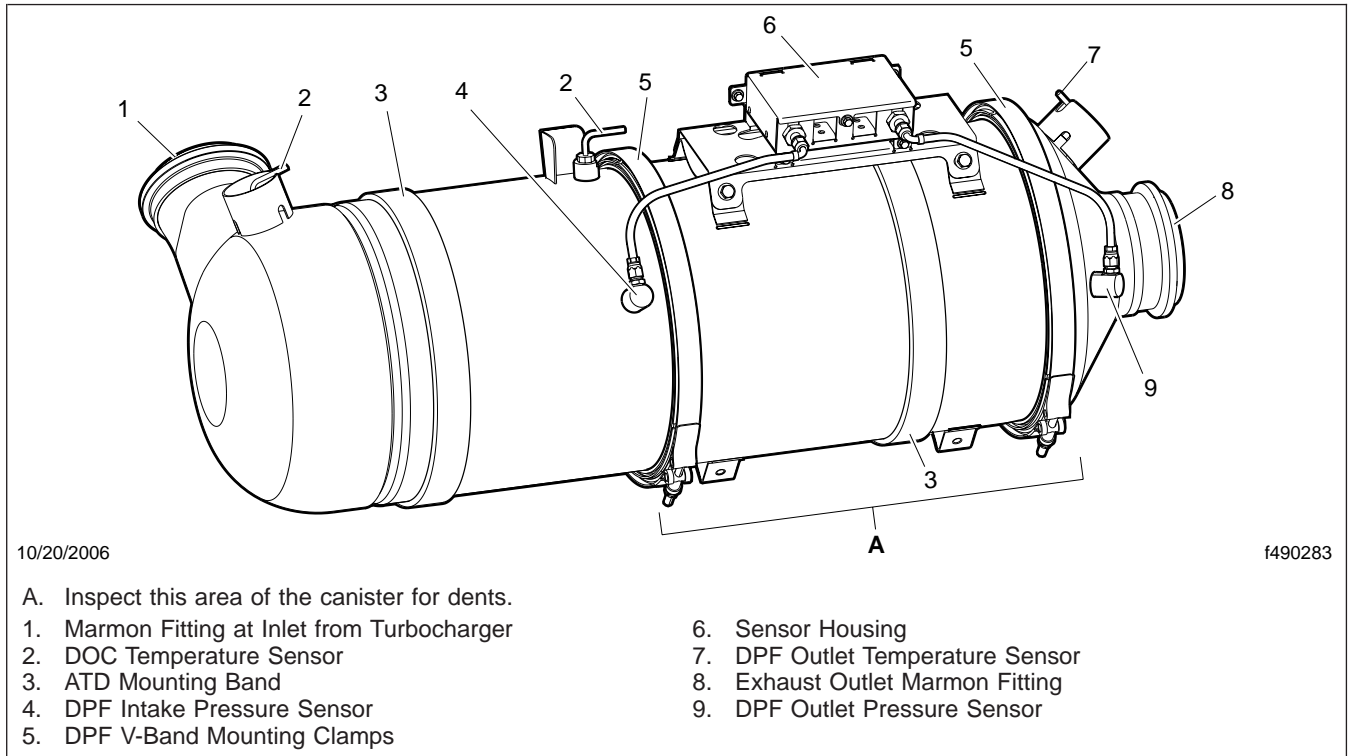

Fig. 5, Typical After-Treatment Device
IMPORTANT: The Environmental Protection Agency's 2007 regulations require lower exhaust emissions, thus requiring new exhaust system components. See Fig. 5. In particular the after-treatment device (ATD), which is part of the after-treatment system (ATS), requires special attention during regularly scheduled maintenance inspections. If any discrepancies are discovered, refer to the engine manufacturer's service literature for repair instructions.
7. Check the DPF exterior surface for dents or other damage. See Item A of Fig. 5. A dent over 3 inches (76 mm) in diameter and 1/4-inch (6-mm) deep could cause internal damage to the DPF, causing it to malfunction.